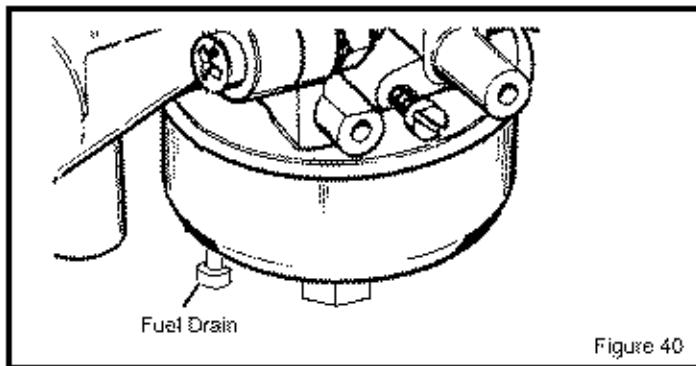

Figure 40
3. Do not leave fuel in the fuel tank or the carburetor. The fuel can damage the function of the fuel system. Some models have a fuel drain (Figure 40). Hold a cloth under the fuel drain. Push the fuel drain until the carburetor is empty.